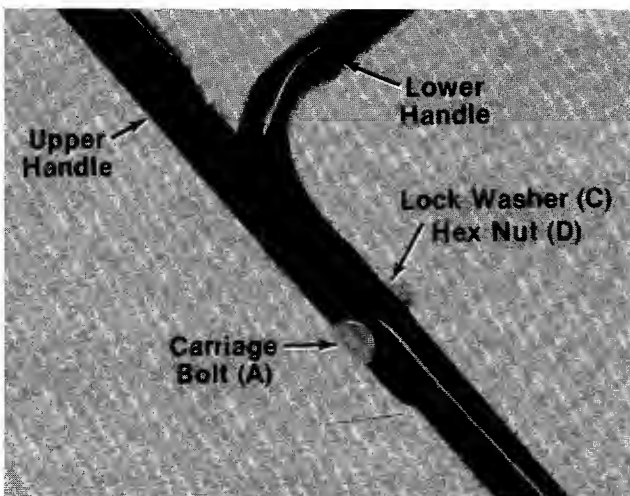

FIGURE 3. Non-Folding Handle Only
- ← A. Units with Non-Folding Handle—Secure upper handle with two curved carriage bolts (A), lock washers (C) and hex nuts (D). See figure 3.